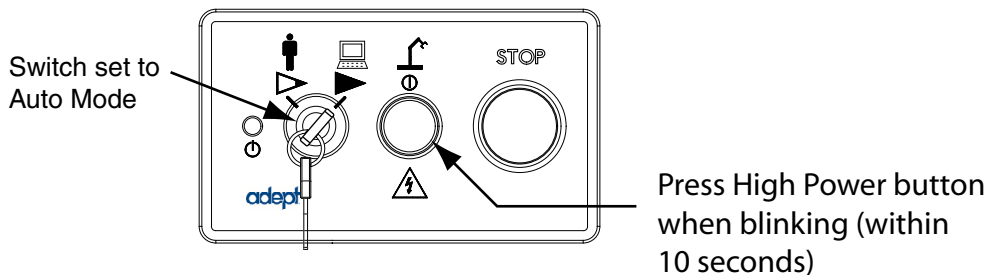

Figure 16. High Power Button on Front Panel
4. Verify that the Auto/Manual switch on the Front Panel is set to **Auto Mode**. (See Figure 16 on page 12.)
5. The Wizard then tells you to press the blinking **High Power** button on the Front Panel. See Figure 16.